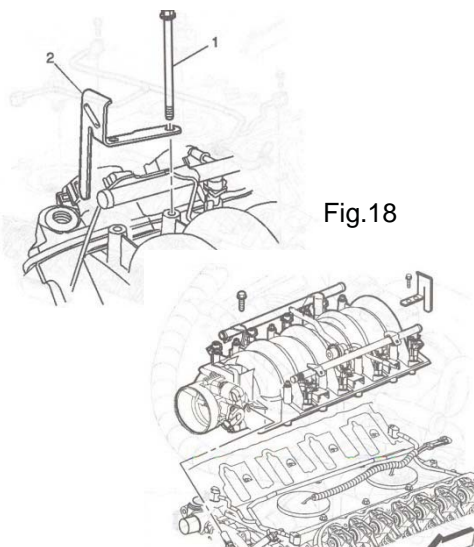

Fig.18
- 4) Remove temporary bolt spacers on five rear most bolts and hand start all 10 fasteners. Don't forget the fuel rail stop bracket on RH rear (Fig.18).